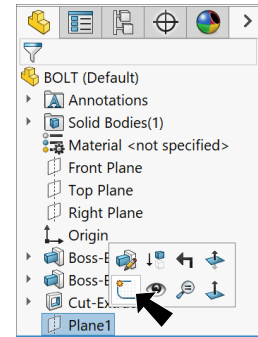

Fig. 19
Step 2. Click **Plane1**  in the Feature Manager and click **Sketch**  on the context toolbar, **Fig. 19**.